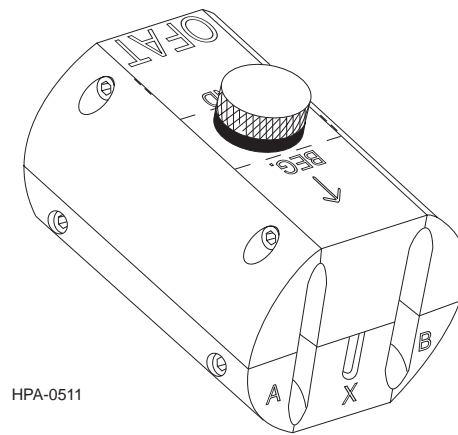

Figure 36
5.18 Read and completely understand SRP-004-014, Corning Cable Systems OFT-000 Optical Fiber Access Tool (OFAT) (Figure 36). This procedure describes how to access fibers in a buffer tube with the OFAT.